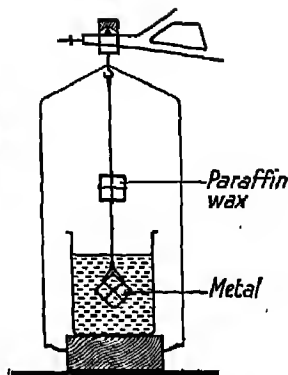

FIG. 191. To find the specific gravity of a solid 'lighter' than water.
**Expt. 245.** To find the S.G. of a solid which does not sink in water (a piece of paraffin wax). Take a piece of metal heavy enough to sink the wax in water. Weigh the metal in water. Fasten the metal to the wax by means of thread and arrange it as shown in Fig. 191, so that the metal is in water and the wax in air. Weigh in this position. Now weigh both the metal and wax together in water.